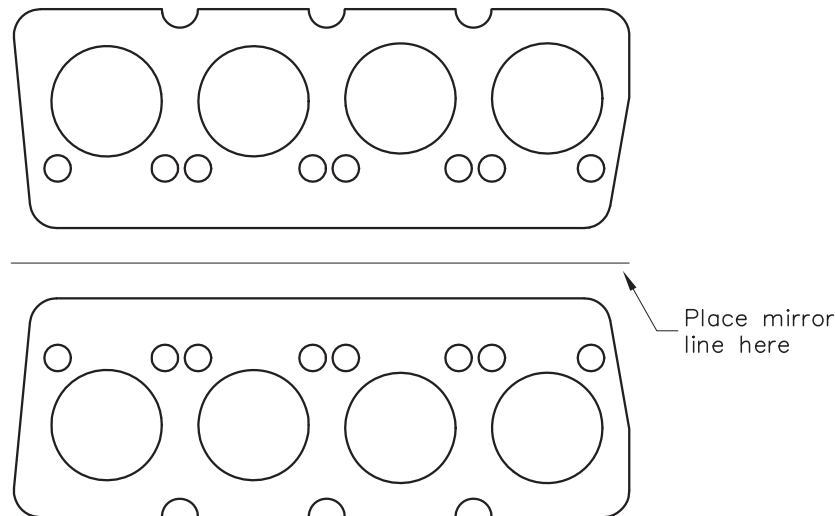

Fig. 17-4
4. Create a horizontal **mirror line** (axis) near the gasket by selecting two points on a horizontal plane, as shown in Fig. 17-4.
AutoCAD mirrors the gasket as shown in Fig. 17-4.